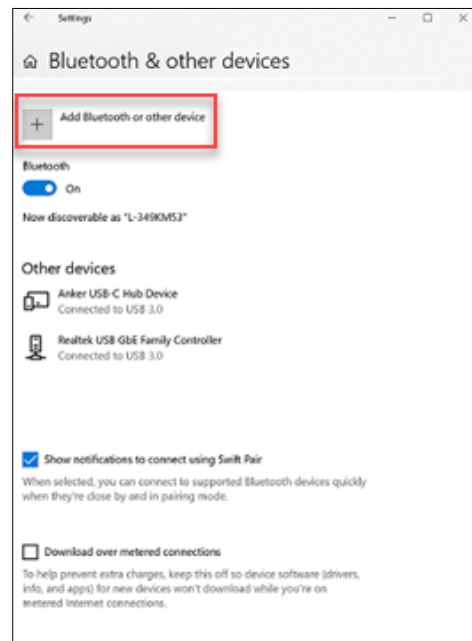

Figure 13: Add BT & other device
7. Select **Add Bluetooth or other device** on the *Bluetooth & other devices* popup window (see **Figure 13**).